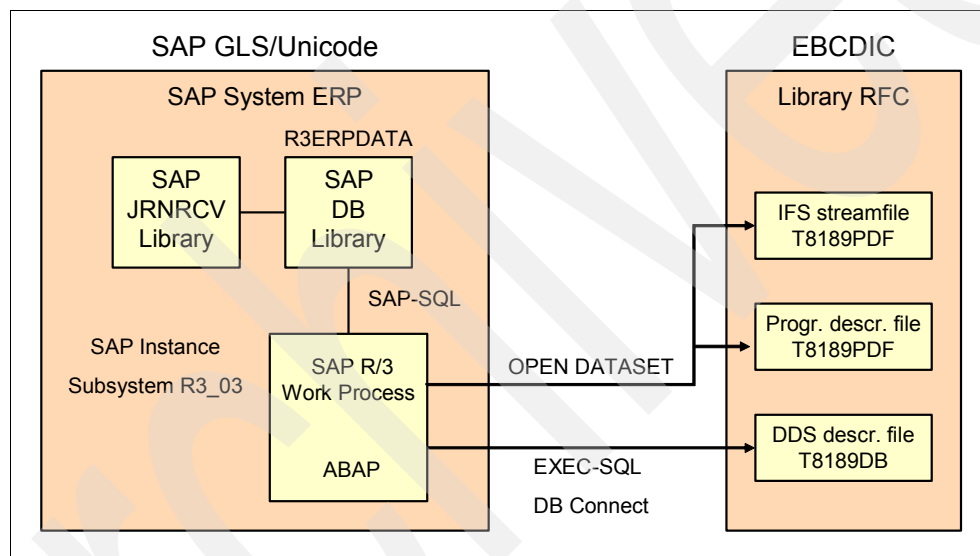

Figure 29-19 ABAP data access
- ▶ **OPEN DATASET:** Use text mode to access Integrated File System stream files or program-described physical files. The ENCODING parameter provides code page conversion between the SAP code page environment (UNICODE or GLS ASCII) and the i5/OS EBCDIC environment. Figure 29-19 illustrates the logic of accessing non-SAP data with an ABAP program.